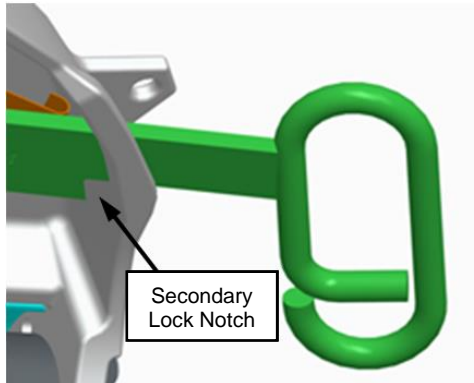

Figure 6
- B. The Secondary Lock Notch must be behind the casting skirt (See Figure 6)